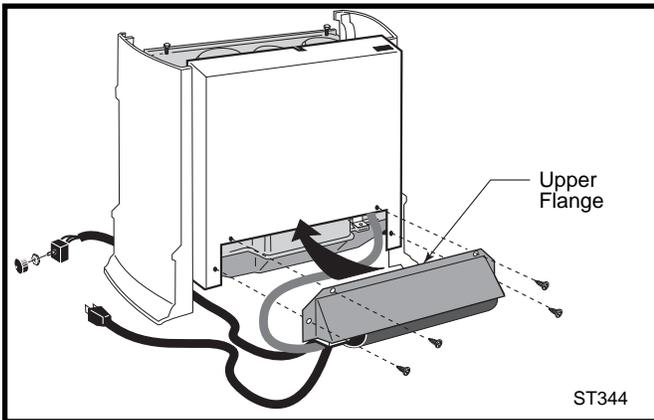

Fig. 10 Place upper flange behind lower edge of shroud.
1. Attach the fan to the firebox by engaging the upper flange of the fan skirt under the lower edge of the shroud and secure the skirt with the four screws and one star washer provided. (Fig. 10, 11)